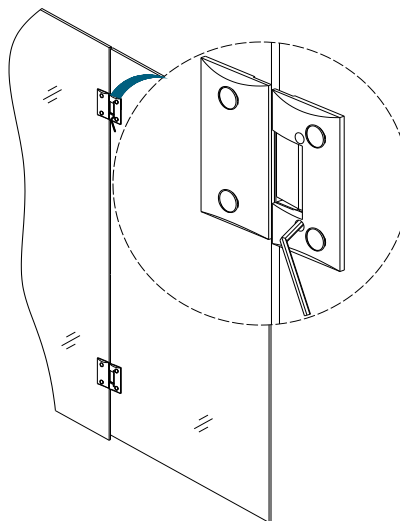

Figure 2
**2.** The hinges are set to overclose at 172°. You can change this angle by using the adjustment screws on the hinge plate. (Figure 2)